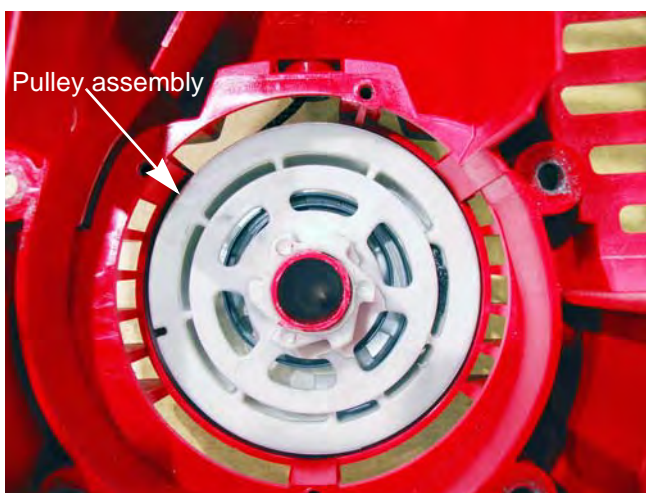

Figure 6.10
3. Install the pulley assembly into the starter housing assembly. See Figure 6.10.